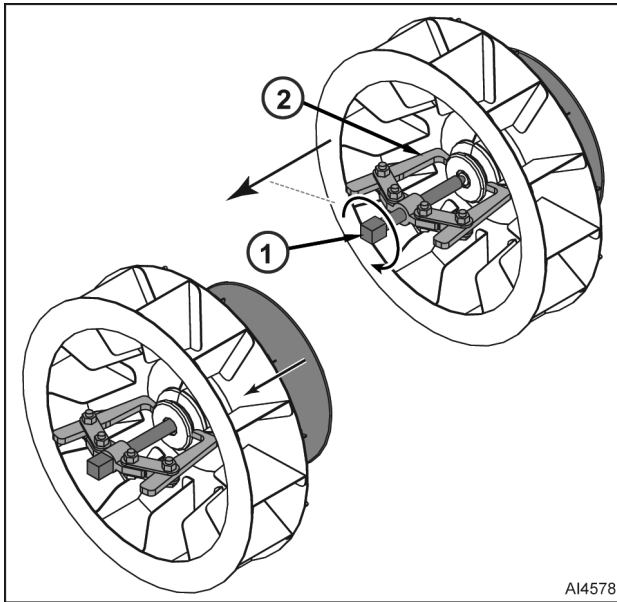

Fig. 23
- Place puller over blower fan hub. Ensure arms (2, Fig. 23) engage hub properly.
- Rotate puller shaft (1, Fig. 23) to break blower fan free of motor shaft.